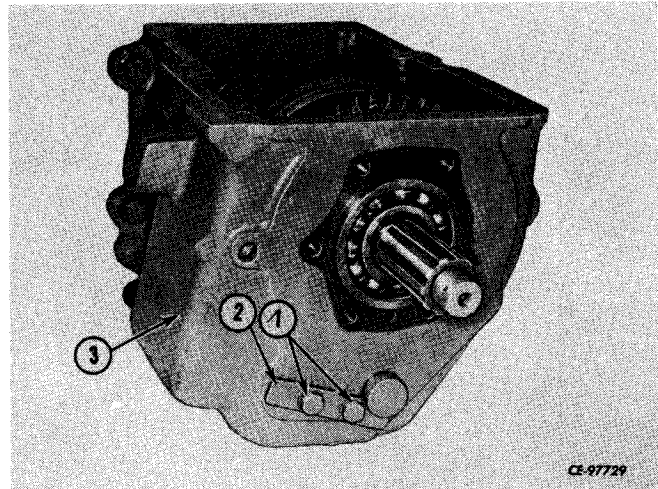

Figure 4-31
Remove cap screws and lock washers (1, Fig. 4-31) and countershaft lock plate (2) from housing (3).